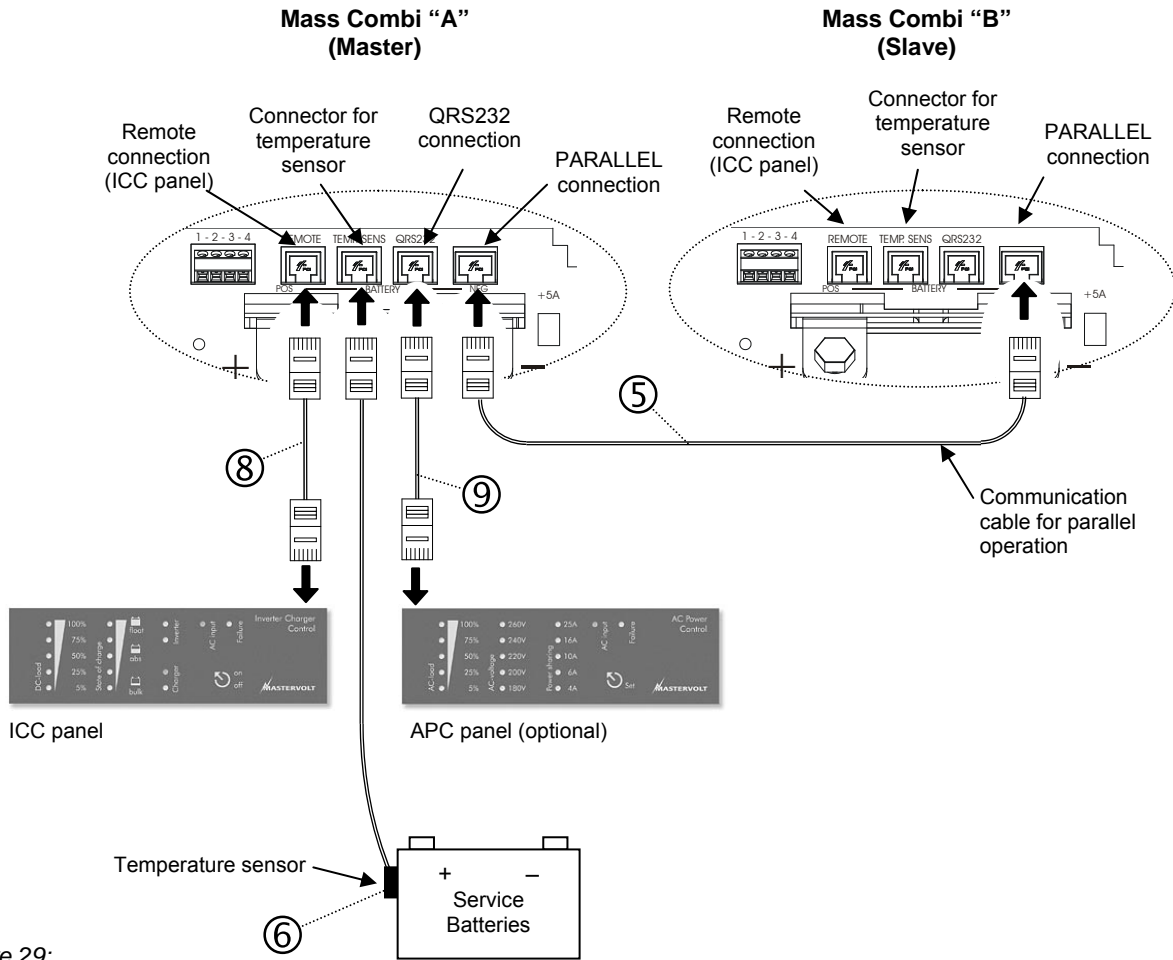

Figure 29: Connection of remote control panels, battery temperature sensors and communication cable for parallel operation
- 2 See reference ②. Connect the "AC output POWER" of Combi "A" to the power distribution group.
- 3 See reference ③. Connect the "AC output SHORT BREAK" of both Mass Combi "A" and Mass Combi "B" to the SHORT BREAK distribution. Beware that the L, N and PE / GND wiring may not be exchanged.
- 4 See reference ④. Run the DC-cables between the DC-distribution and each Mass Combi. Connect the red cable to the plus (+) connection, the black cable to the minus (-) connection. Do not install the DC-fuses of the DC-distribution before the entire installation is completed (see chapter 7).
- 5 See figure 29, reference ⑤. Run the modular 8-pole communication cable between Mass Combi "A" and Mass Combi "B". Connect this cable to the PARALLEL connectors.
- 6 See reference ⑥. Attach the temperature sensor to the battery and run the cable into Mass Combi "A" and connect the RJ12 connector to the "TEMP.SENS"-connector (Data Bus Connections)
- 8 See figure 29, reference ⑧. If you want to install the ICC remote control panel, run the communication cable between Mass Combi A and the panel. Connect the RJ12 connector to the "REMOTE"-input (Data Bus Connections) of Mass Combi A.
- 9 Other panels than the ICC remote control panel must be connected to the "QRS232"-connection; reference ⑨. Refer to the applicable installation manual for detailed instructions.